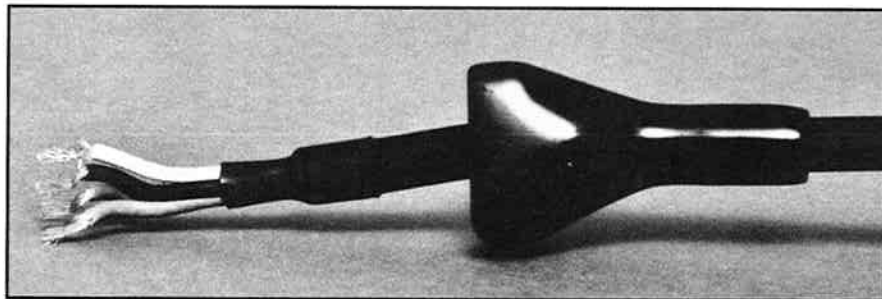

Figure 4. Connector cover and cable ready for step 5
- 3 Slide the connector cover onto your cable or wire bundle (fig. 4).